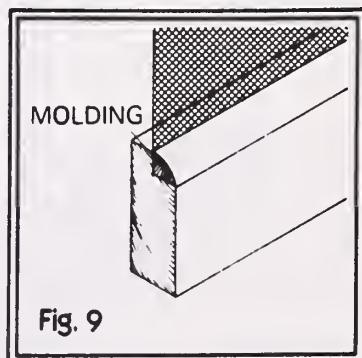

Fig. 9
5. Remove the clamps and cut away the excess screen (fig. 9). Paint the new molding with two coats of paint.